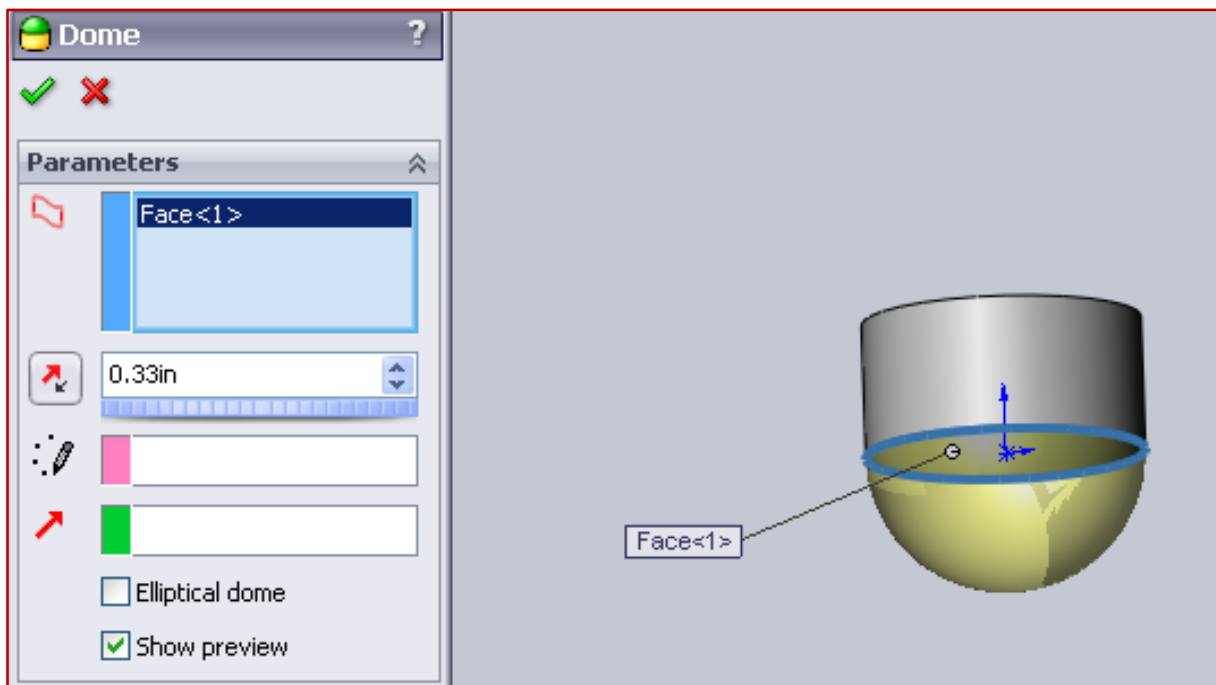

Figure 5.4 – Dome Command
- ✓ Use the blind option and type the depth of the **Extruded Cut** in the drawing. See Figure 5.4 below and notice that the **Extruded Cut** stops where the dome starts.